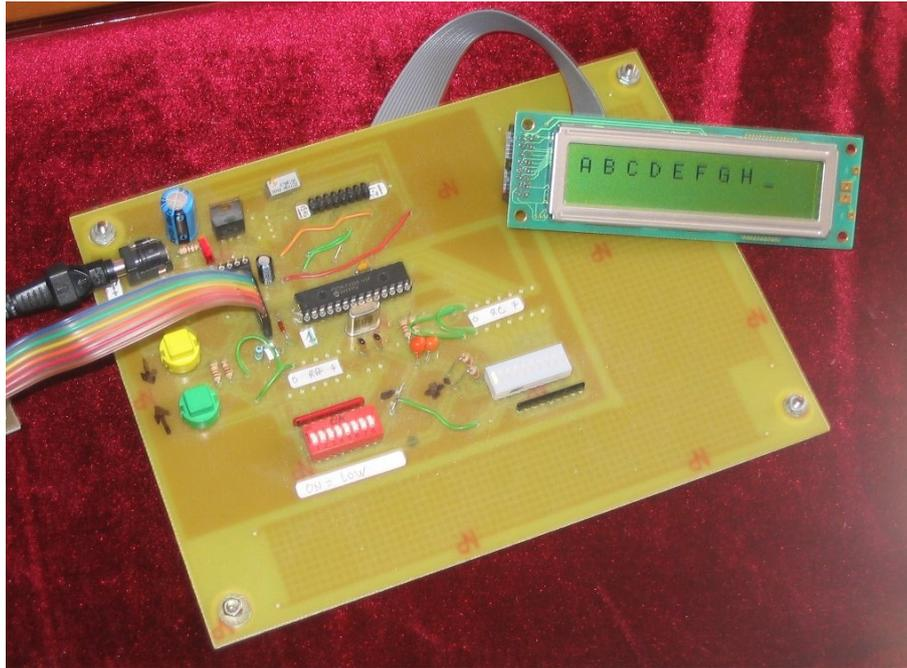

Figure 1: Result of the very first program compiled by `cpik` ever executed
- Any source library is a simple text file, so it can be manually written in assembly language, using a standard text editor (this point is important to bootstrap a totally new development environment). For example, the LCD library has been developped from scratch with a text editor as unique tool, and has been used to support the very first program³ compiled with `cpik` ever executed (see figure 1).